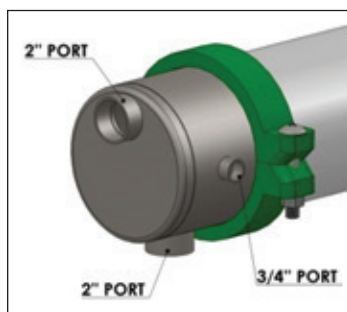

FIGURE 5
- Position the top and bottom manifold cap as shown. The 3/4" port to the side on the inlet manifold and facing up on the outlet manifold. The 3/4" port will accommodate a component of the hydraulic command assembly. (See Figure 5)